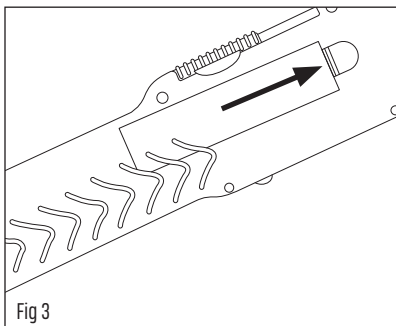

Fig 3
3. **REPLACE THE BATTERY COVER** - Ensure the Battery Door is closed, by pushing the latch forward until it clicks. (Fig 3)